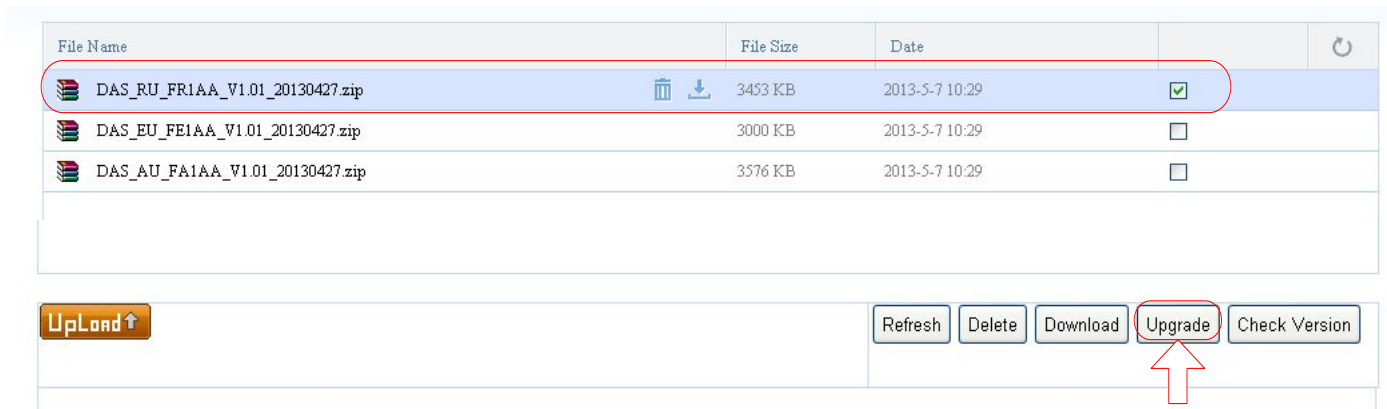

Figure 8-4 Software Upgrade Step 3
3. When the software upload has completed successfully, select the file that was just uploaded and click the **Upgrade** button to complete the software upgrade, as shown in Figure 8-4 for an RU upgrade.